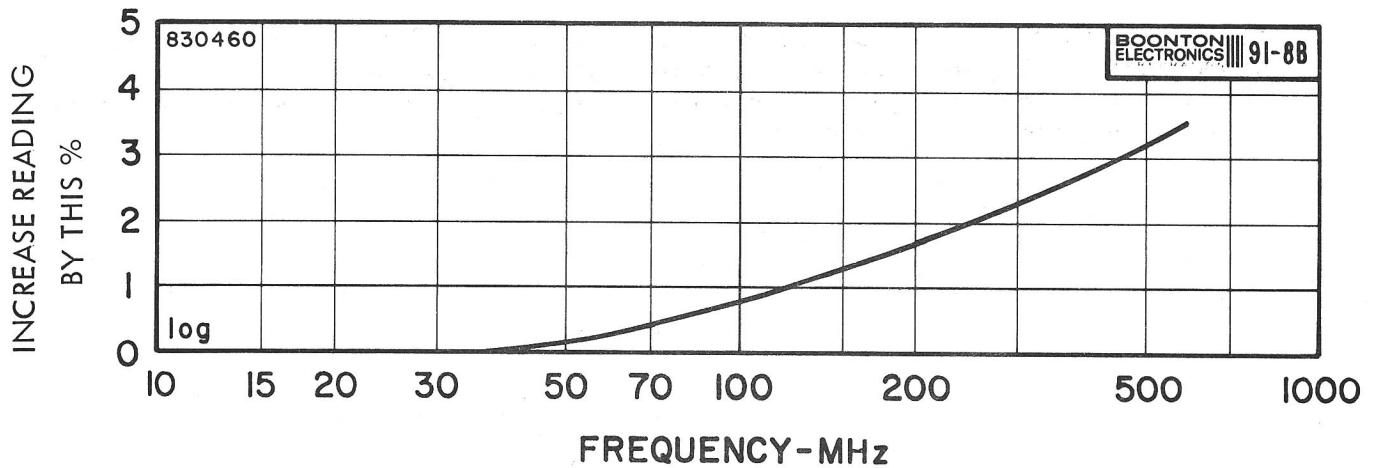

Figure 8A. Model 91-8B 50 $\Omega$  BNC Adapter Correction Curve.
A Model 91-8B 50-ohm BNC Adapter is supplied as a standard accessory with the instrument for 50-ohm voltage measurements up to 600 MHz. A correction curve (Figure 8A) is included for frequencies above 50 MHz. For higher-frequency measurements and for through-line voltage measurements the optional accessory, Model 91-14A Tee Adapter, is recommended. It is designed to compensate for the rf probe capacitance and to present a good vswr (better than 1.15) up to 1.2 GHz. It may be used in conjunction with the Model 91-15A 50-ohm load for terminated voltage measurements. In a coaxial line its insertion loss is low; however, a chart (Figure 8B) is supplied showing loss vs. frequency.
3.6 CORRECTION CURVE FOR MODEL 91-8B. Use the correction curve of Figure 8A to make corrections when using the Model 91-8B, 50 $\Omega$  BNC Adapter with the Model 92C and Model 92C Option Instruments.